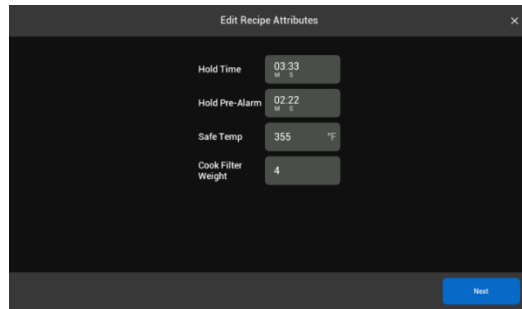

Figure 50 - Edit Recipe Attributes
- Click the field next to the **Recipe Attributes** to edit: **Hold Time, Hold Pre-Alarm, Safe Temp and Cook Filter Weight** **Figure 50**